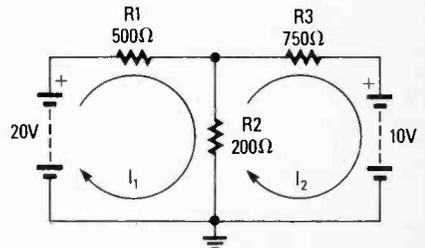

Fig. 6. If you used the same loops as we show here in the same direction, then your solution to problem 3 should be exactly the same as ours.
3. The two loops are shown in Fig. 6. The loop equations for loop 1 are: